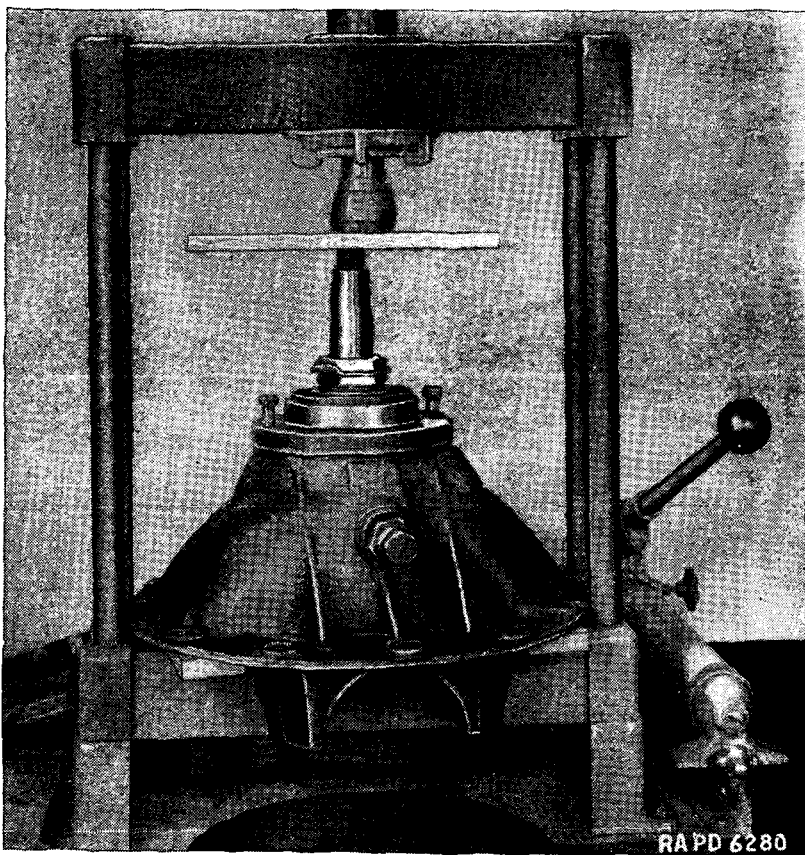

FIGURE 66.—Pressing rear axle drive pinion assembly in carrier.
(2) Install drive pinion assembly— $\frac{5}{8}$ -inch socket wrench. Replace shaft assembly into differential housing and bolt in place with six $\frac{7}{16}$ -inch cap screws and lock washers (figs. 66 and 67).